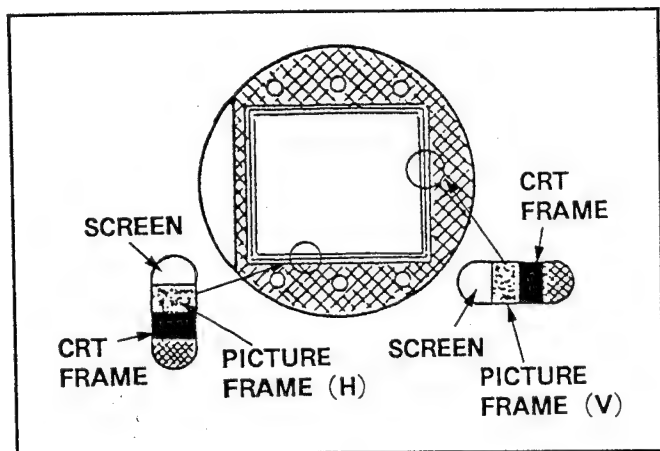

Figure F9.
2. Adjust VR7004 (vertical) and VR7005 (horizontal) so that the V width and H width of the picture frame are 0.5mm as shown in Figure F9.